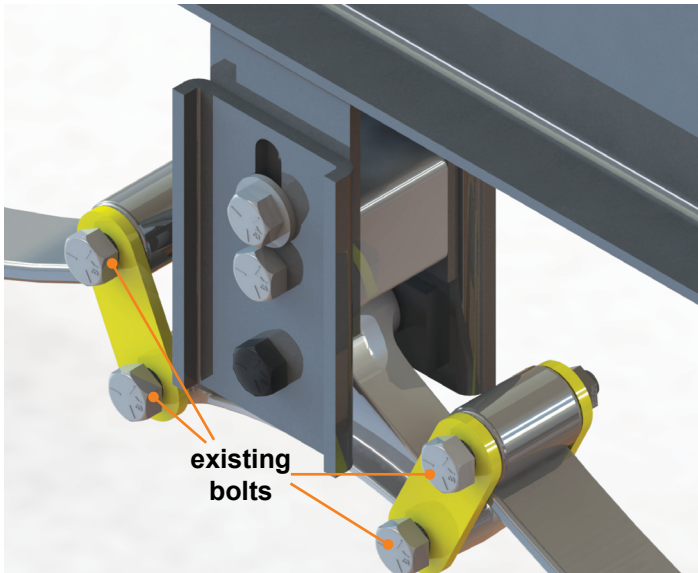
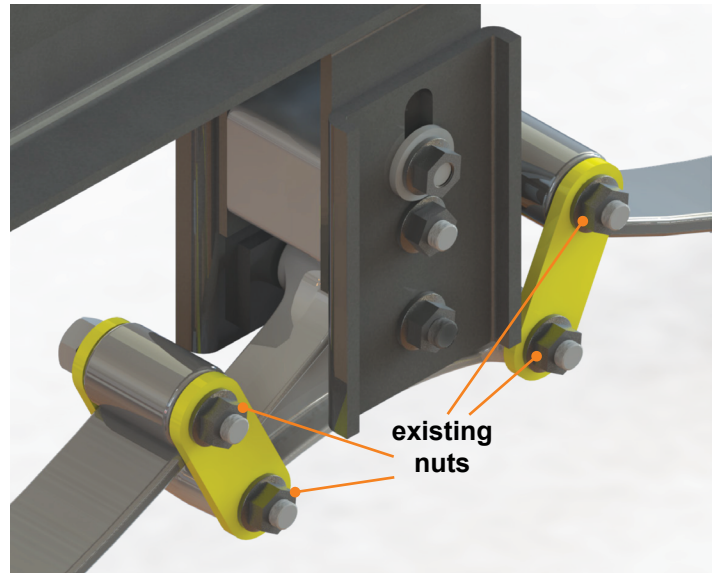

Fig.10
Fig.11
11. Bolt the leaf spring to the shackle, using existing bolts. Torque to manufacturer's recommendations (**Fig.10**).
NOTE: If the shackles were removed from the equalizer, use existing bolts or replace as needed (**Fig.10 and Fig.11**).